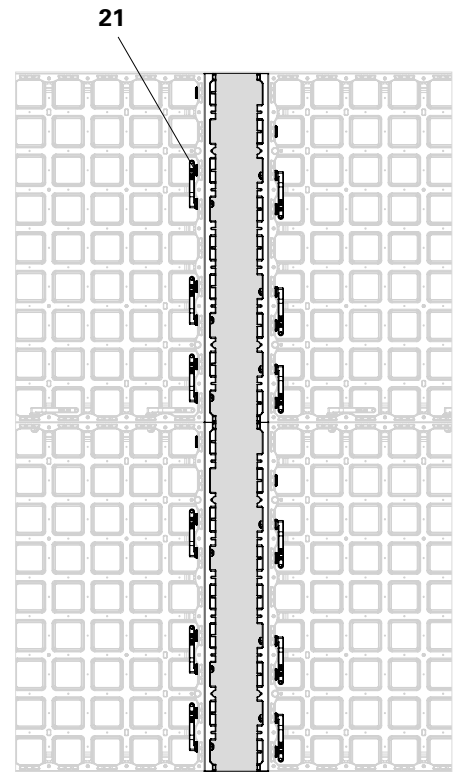

Fig. B8.06a
1. Mount the filler support (**16**) on both panels using 6 DUO couplers (**21**) each! (Fig. B8.06a)